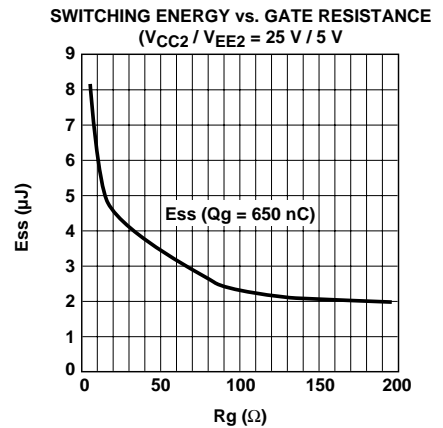

Figure 77. Switching energy plot for calculating average P_{switch} (for HCPL-316J output driving an IGBT rated at 600 V/100 A).
2. Calculate total power dissipation in the part referring to Figure 77.
For $R_G = 10.5$, the value read from Figure 77 is $E_{SWTICH} = 6.05 \mu\text{J}$. Assume a worst-case average $I_{CC1} = 16.5 \text{ mA}$ (which is given by the average of I_{CC1H} and I_{CC1L}). Similarly the average $I_{CC2} = 5.5 \text{ mA}$.
P_i = 90.8 mW, P_o = 314 mW, T_A = 100°C, and assuming the thermal model shown in Figure 77 below.